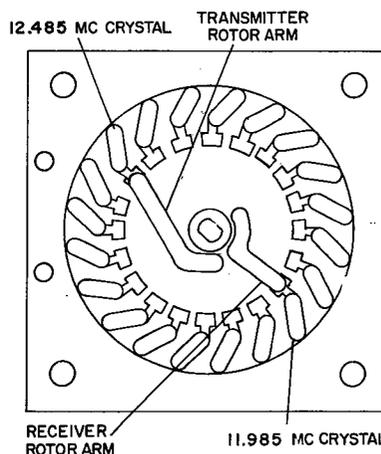

Figure 5-5. H-F Oscillator Switch
e. With the 618F-1A/1B set at 118.00 mc, loosen the setscrews on collar (H8) of bevel gear (MP32), and adjust the h-f oscillator crystal switch so that the transmitter rotor arm is selecting the highest value crystal (12.485 mc). (See figure 5-5.) Adjust bevel gear (MP32) axially for good mesh, and tighten the setscrews so that they bear against a solid part of the gear hub. Turn crystal switch through entire range (cw and ccw), and check that contact is made in every position.
e. Check that the h-f oscillator switch (S3) is selecting the 12.485-mc crystal as shown in figure 5-5. If the rotor arm is not centered on the correct pad, loosen the setscrews in coupler MP201 (see figure 6-2) and rotate the shaft. Approach the final setting while rotating the shaft clockwise as viewed from the frequency indicating dials end of the 618F-1C/1D. Tighten the setscrews in coupler MP201.